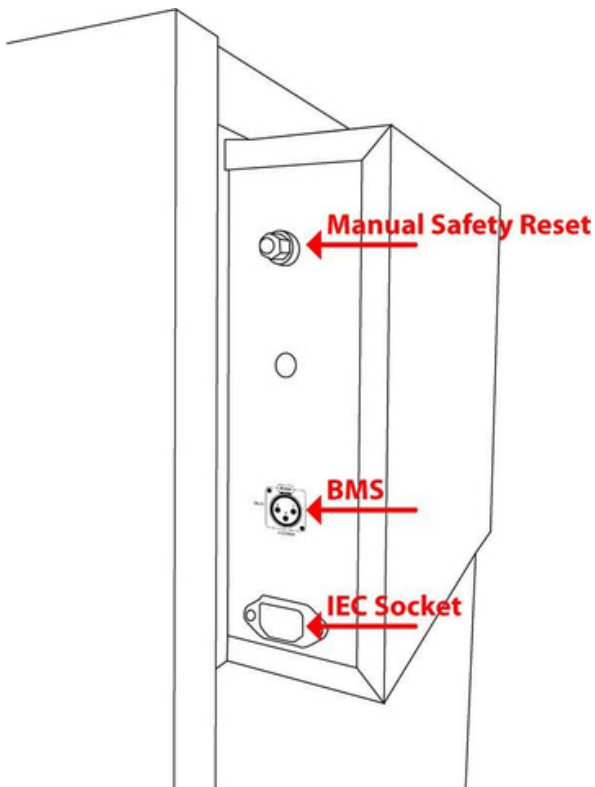

Fig 1.
- Locate the safety reset at the back of the cabinet. It is displayed as a red or black knob (**Fig 1**).